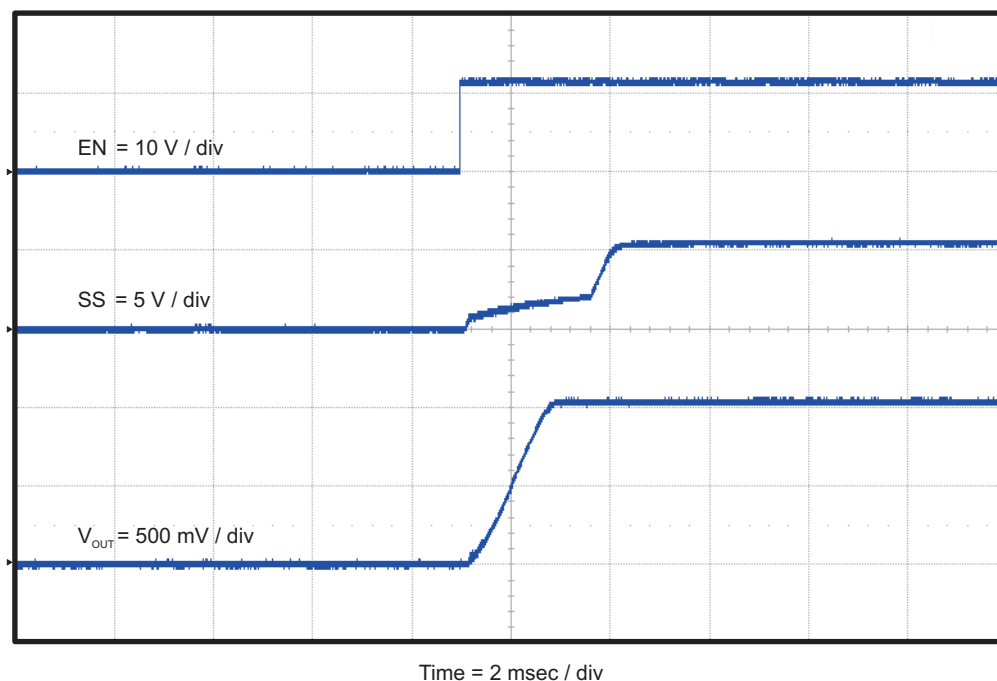

Figure 10. TPS54227EVM-686 Start-Up Relative to EN
The TPS54227EVM-686 start-up waveform relative to enable (EN) is shown in Figure 10.